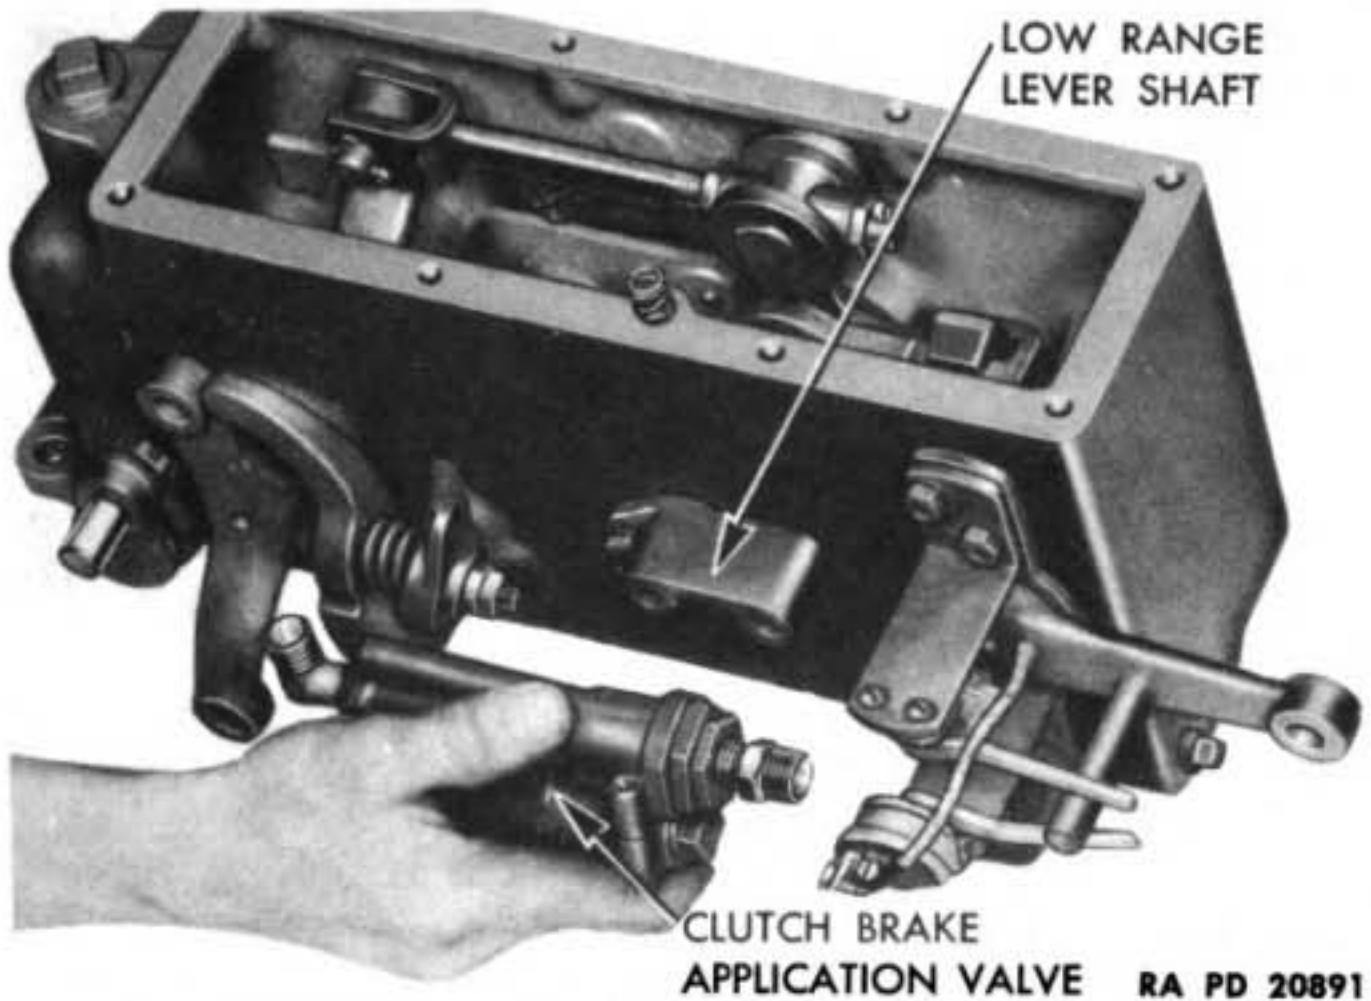

Figure 162 — Removing Clutch Brake Application Valve
(4) REMOVE CLUTCH BRAKE APPLICATION VALVE (fig. 162). Remove two cap screws and lock washers attaching valve to end of low range lever shaft.
(15) **INSTALL CLUTCH BRAKE APPLICATION VALVE** (fig. 162). Attach clutch brake application valve to low-range lever shaft on side of housing with two cap screws and lock washers.